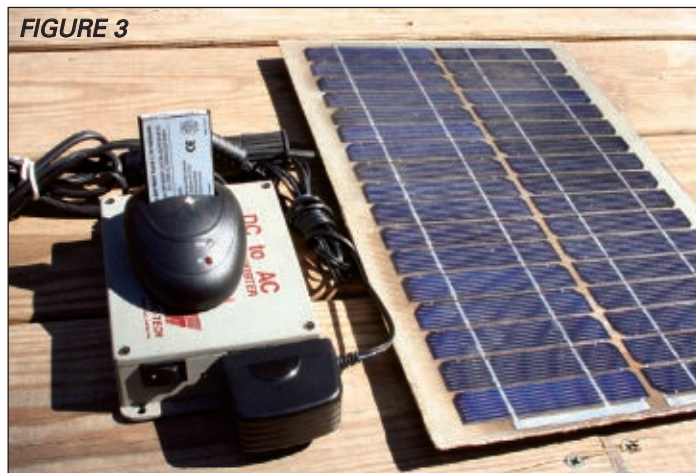

FIGURE 3
inverter. Several banks could also be split up on individual timers so they are powered on sequentially for a charge session. Even finicky lithium-ion (Li-Ion) batteries can be charged in this fashion (Figure 3).
Early PALs were programmed by blowing the unwanted fuses at selected junctions. We won't be blowing any fuses as the CPLDs we will be discussing are programmed and erased electrically. So, put that UV eraser back into the closet and study Figure 3, which just happens to be a high-level model of the CPLD we will be logically manipulating.
I've taken the liberty to Xilinx-ize the functional block names of the high-level CPLD model you see in Figure 3. A generic CPLD may contain PAL or PLA architecture in its SPLD blocks. AIM (Advanced Interconnect Matrix) is a Xilinx CoolRunner-II term for interconnect array. The idea behind the CoolRunner-II is to allow connections and interconnections to all of the CPLD resources via the AIM. The Xilinx technical documentation states that its CPLD design software is so
As you can see in Figure 3, the PLA and 16 macrocells (MC0-MC15) make up a CoolRunner-II FB (Function Block). Forty signal entry points are provided for each CoolRunner-II FB. The FB is a place where logic and connections necessary to complete a logical function are created. You have already been introduced to the
■ **FIGURE 3.** With arrows pointing to everything everywhere, it's easy to see that the internals of this particular CPLD are fully interconnectable.